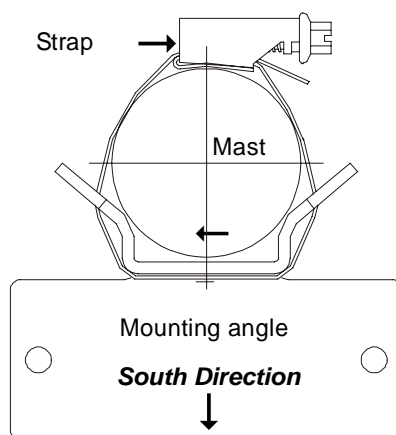

Figure 8: Strap, Mast, Mounting angle
3. Put the free end of the prepared clamp around the mast and the mounting angle, and screw it on. (Fig.8)